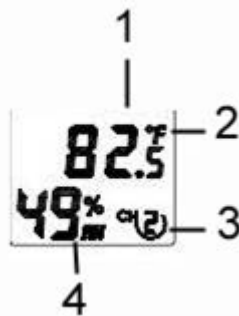

Figure 4
5. Insert (2) AA batteries.
6. Verify the correct channel number (CH) and temperature units of measurement (°F vs. °C) are on the display, as shown in Figure 4.